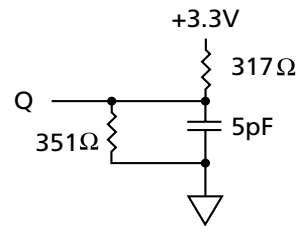

Figure 2
- The load used for V_{OH}, V_{OL} testing is shown in Figure 2. AC load current is higher than the stated DC values. AC I/O curves are available upon request.
3. This parameter is measured with the output loading shown in Figure 2.